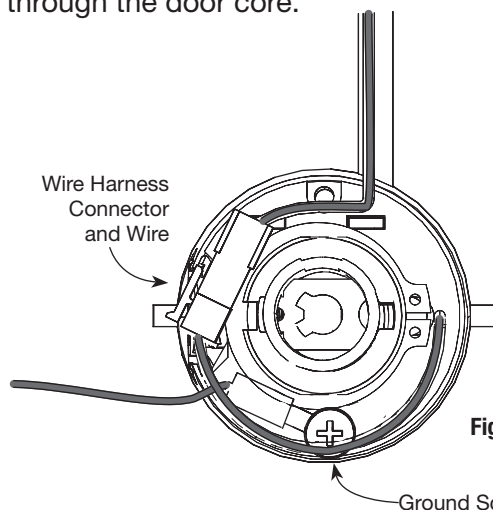

Fig. 7b Detail
b. Route lock body harness and ground wire (Fig. 7b Detail).